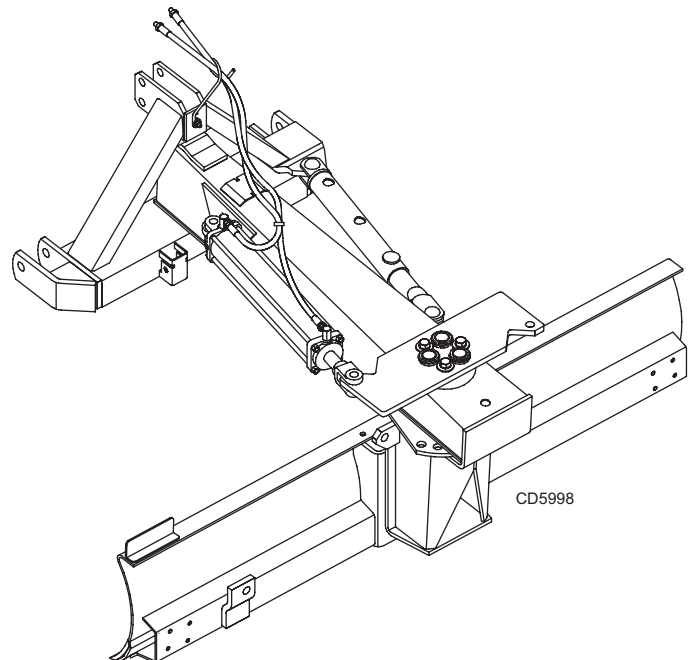

Figure 15. Angle Kit Hose Routing
8. Route hoses as shown in Figure 15.